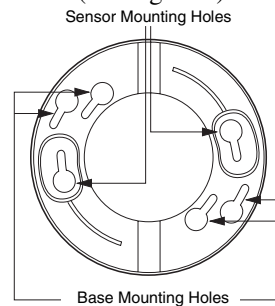

Figure 2. Sensor and Base Mounting Hole Locations
1. Locate the base mounting holes (inner pair and outer pair) and mount the base to the wall or ceiling with the appropriate hardware (see Figure 2).